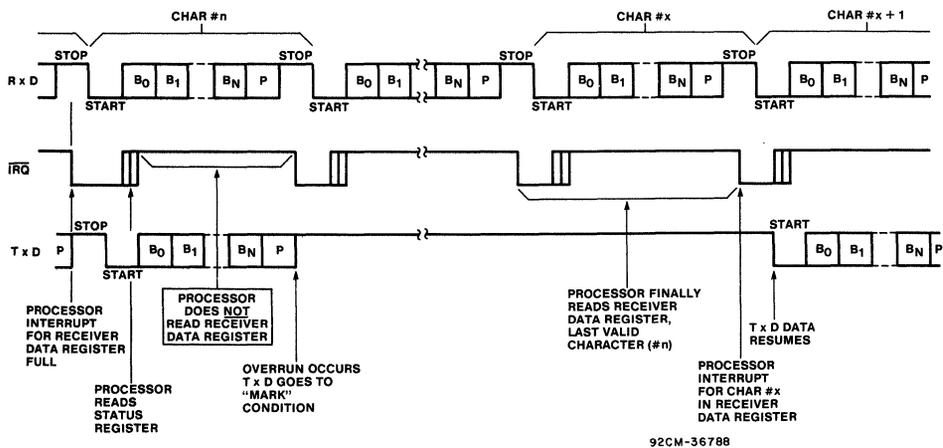

Fig. 15 - Overrun in echo mode.
**Overrun in Echo Mode (Fig. 15)**